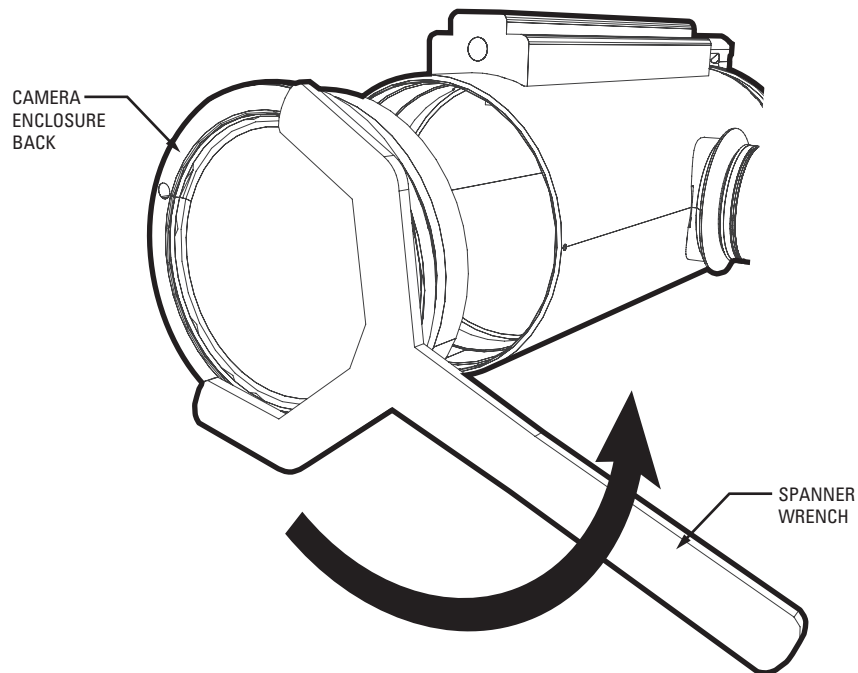

Figure 5. Remove Back Cap of Camera Enclosure
2. Use the supplied spanner wrench to loosen the back of the camera enclosure (refer to Figure 5). Once the back is loose, use your hands to continue to loosen it until it can be removed.